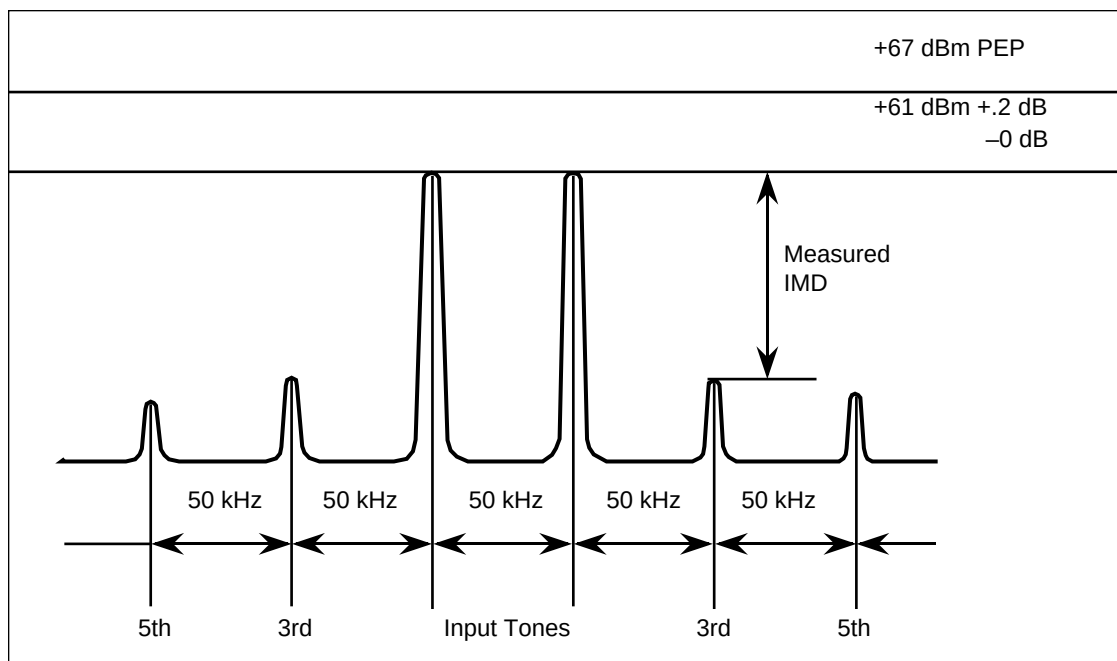

Figure 5-4. IMD Spectrum.
5. Evaluate the spectrum against Figure 5-4 to determine distortion levels.